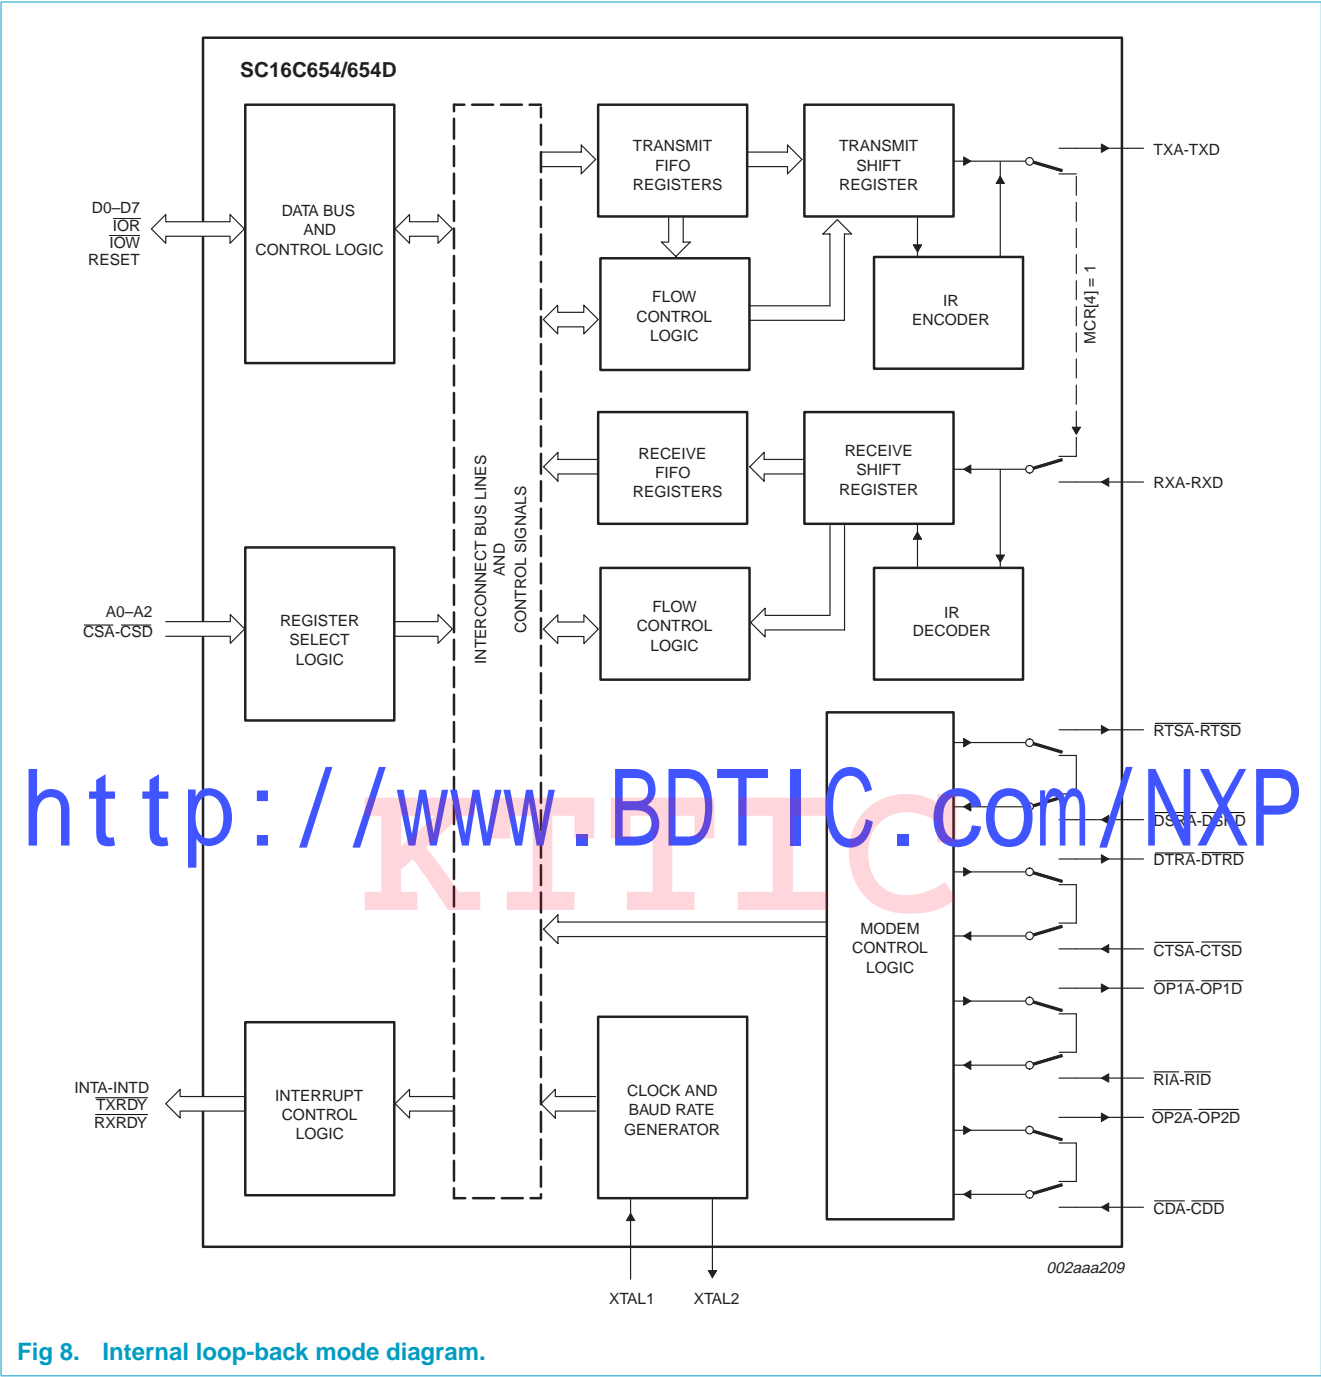

Fig 8. Internal loop-back mode diagram.
The internal loop-back capability allows on-board diagnostics. In the loop-back mode, the normal modem interface pins are disconnected and reconfigured for loop-back internally. MCR[0-3] register bits are used for controlling loop-back diagnostic testing. In the loop-back mode, OP1 and OP2 in the MCR register (bits 2-3) control the modem $\overline{\text{RI}}$ and $\overline{\text{CD}}$ inputs, respectively. MCR signals $\overline{\text{DTR}}$ and $\overline{\text{RTS}}$ (bits 0-1) are used to control the modem $\overline{\text{CTS}}$ and $\overline{\text{DSR}}$ inputs, respectively. The transmitter output (TX) and the receiver input (RX) are disconnected from their associated interface pins, and instead are connected together internally (see Figure 8). The $\overline{\text{CTS}}$, $\overline{\text{DSR}}$, $\overline{\text{CD}}$, and $\overline{\text{RI}}$ are disconnected from their normal modem control input pins, and instead are connected internally to $\overline{\text{DTR}}$, $\overline{\text{RTS}}$, $\overline{\text{OP1}}$ and $\overline{\text{OP2}}$. Loop-back test data is entered into the transmit holding register via the user data bus interface, D0-D7. The transmit UART serializes the data and passes the serial data to the receive UART via the internal loop-back connection. The receive UART converts the serial data back into parallel data that is then made available at the user data interface D0-D7. The user optionally compares the received data to the initial transmitted data for verifying error-free operation of the UART TX/RX circuits.